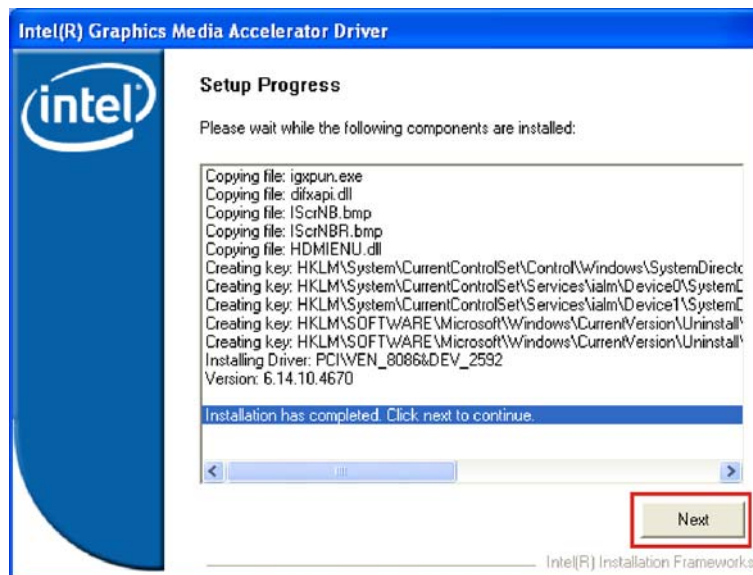

Figure 7-16: VGA Driver Setup Operations
Step 15: **Setup Operations** are performed as shown in Figure 7-16.